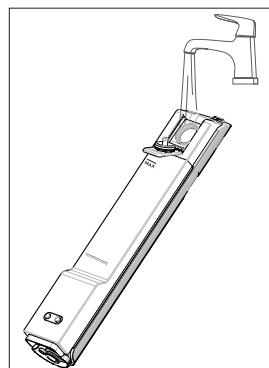

Fig. 6 – Filling the wa-
- ▶ Fill the fresh water tank with clean tap water. Do not use hot or boiling water to fill the fresh water tank. (**see Fig. 6**)